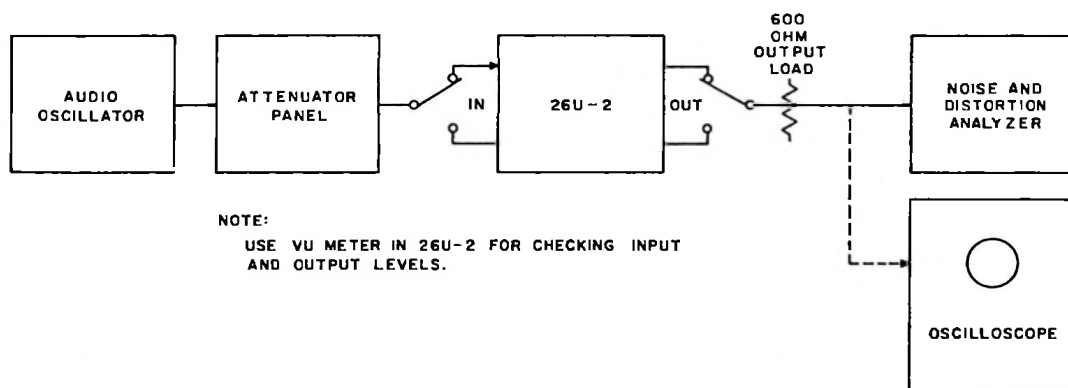

Figure 5-1. Test Setup, Block Diagram
- e. Connect the audio oscillator to one input of the 26U-2 through the Daven attenuator panel with at least 10 db of attenuation inserted. (See figure 5-1.)